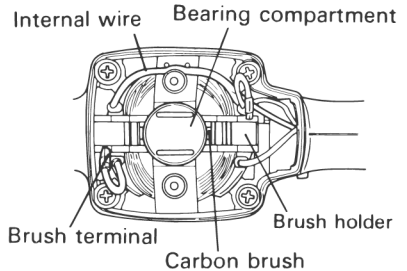

Fig. 13
5. Replacing a carbon brush(Fig. 13)